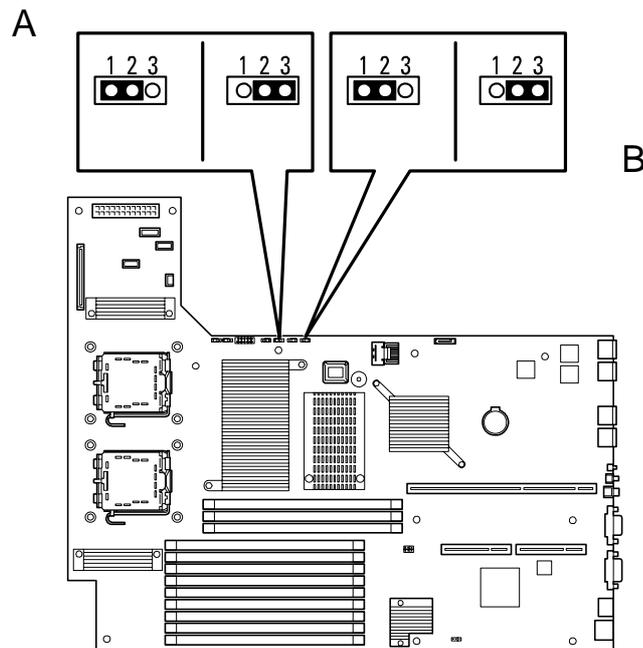

Figure 28: Clear CMOS & Clear Password Jumpers
3. Locate the position of the jumpers on the motherboard (see Figure 28 on page 61).